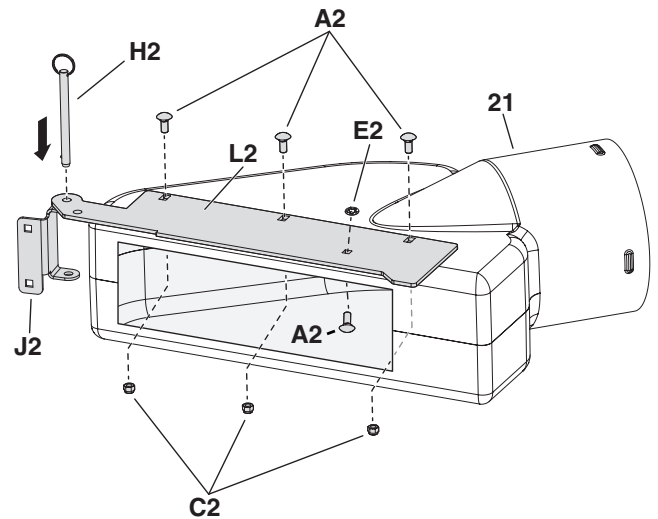

FIGURE 30
- Position deck adapter (21) so that the top lip of the deck hinge (J2) is on top of the adapter (21) while the bottom lip is inside the adapter (21).
- Position boot mount bracket (L2) in place on the deck adapter (21) and mark holes for drilling. Drill holes in deck adapter for attaching boot mount bracket.
- Place a 5/16" x 3/4" carriage bolt (A2) through the deck adapter (21) and boot mount bracket (L2). Install a retainer nut (E2) using a 7/16" socket to push the retainer nut (E2) onto the 5/16" carriage bolt (A2).
- Attach boot mount bracket (L2) to deck adapter (21) using three 5/16" carriage bolts (A2) and 5/16" whizlock nuts (C2). Tighten hardware but be careful not to overtighten. See figure 30.